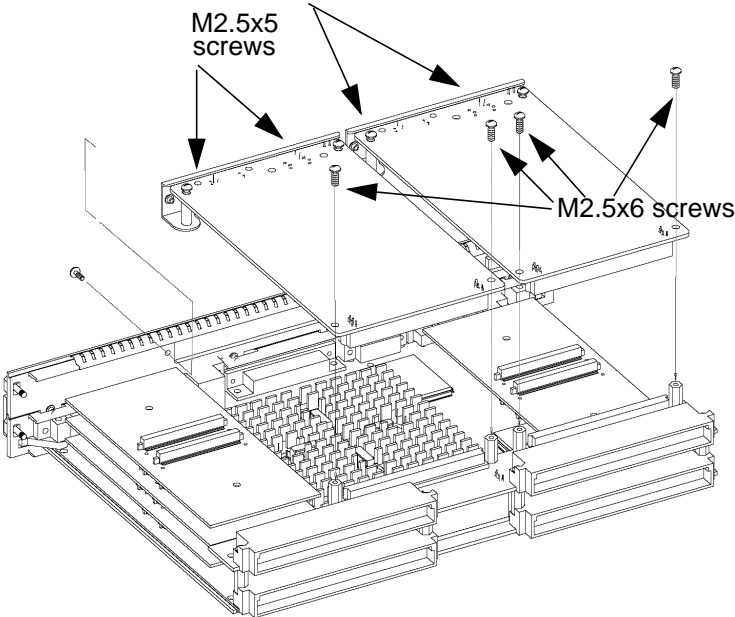

Figure 2-4 **Installing a GSC Mezzanine Card - Back View**
- 1 Working from the back of the Model 743 Board Computer, you can install GSC graphics cards into either the right-hand or center position shown in Figure 2-4.
- 2 Using Figure 2-4 as a guide, position a card and line up its connector over the GSC connector on the board computer.